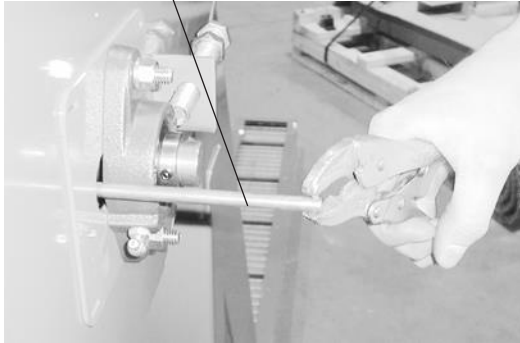

Figure 14. Removing the Axle
8. Remove the axle from the non-drive side as shown in Figure 14. Install the axle and roller back into the top half of the metal belt to avoid loosening the axle, pin, side wings and roller.
8. Remove an axle pin or cotter pin from the drive side of any axle (Figure 14). Because the axle pins are press fit, it may be necessary to use a hammer and drive pin to remove the axle pin.
- Install the drive side pin using a hammer and rod as shown in Figure 14.